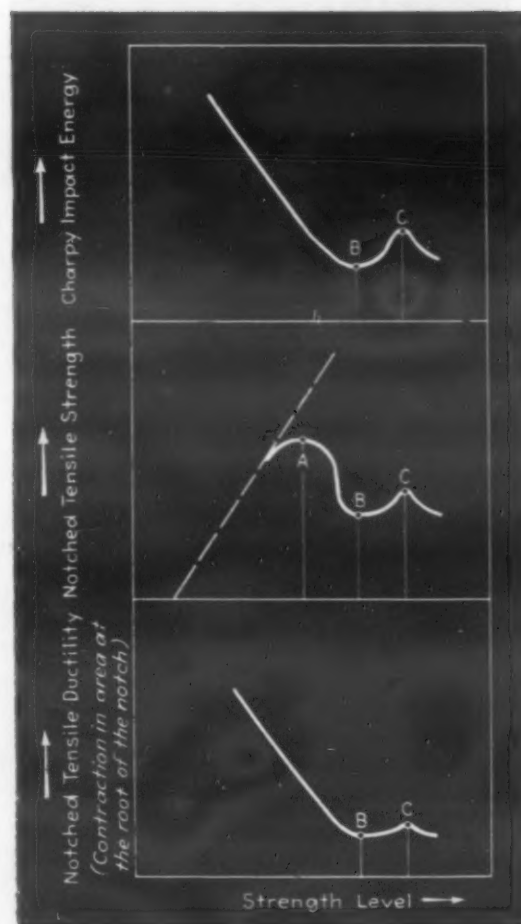

Fig 1—The Charpy impact and the static notched properties show a standard pattern when plotted against the strength level of any steel.
When either the static notched tensile properties of heat treated steels or their (Charpy) notched impact toughness are plotted as functions of the strength level, they show curves of the type shown in Fig 1. It should be noted, however, that most data available on heat treated steels do not show the peak at very high strength levels since this section of the notch strength-tensile strength curve is usually not thoroughly investigated.
curve also shows a maximum at a lower strength level, labeled A in Fig 1, which does not appear in the impact curve. This maximum has been used to separate safe and unsafe mechanical behaviors. At strength levels less than that at which this peak occurs, the steel is considered to possess sufficient ductility and toughness to withstand severe stress conditions, while at higher strength levels the ability to withstand notch effects drops off very rapidly with increasing strength level and the steel is considered unsafe.
Although all the steels on which data are available show notch property vs. strength level curves of the type shown in Fig 1, the position and shape of the minimum and maximum parts of the curve vary enormously from steel to steel. Consequently, the maximum stress allowable under severe service conditions will also vary greatly for the available steels. Those which exhibit a broad maximum at (A) and a shallow minimum at (B) are the safest at tensile strengths exceeding, say, 200,000 psi.
The shape of the notched strength-tensile strength curve in Fig 1 can be explained on the basis of the stress-strain behaviors of notched and unnotched test bars.
high strength level maximum (C) in Fig 1 are found at the same strength level in both the notch strength and toughness (or ductility) properties, although in general, strength and ductility vary in opposite directions. At low strength levels, on the other hand, in keeping with the general relationship between strength and ductility, the notch strength increases with increasing strength levels, while the toughness decreases. In this range of low strength levels, the relationship between notch strength and tensile strength is such that the notch strength always equals one and one-half times the tensile strength. Another seeming inconsistency is found in the fact that peak A, which is so helpful in separating safe and unsafe behaviors, is completely absent in the other notch characteristic curves.
is conceivable that the peak might be broad enough to completely eliminate the depression shown in Fig 1.
Since the peak which had been labeled A in Fig 1 is broader and occurs at a higher strength level for 2340 than for 1340, 2340 would be expected to behave more favorably under severe stress conditions at high strength levels than 1340.